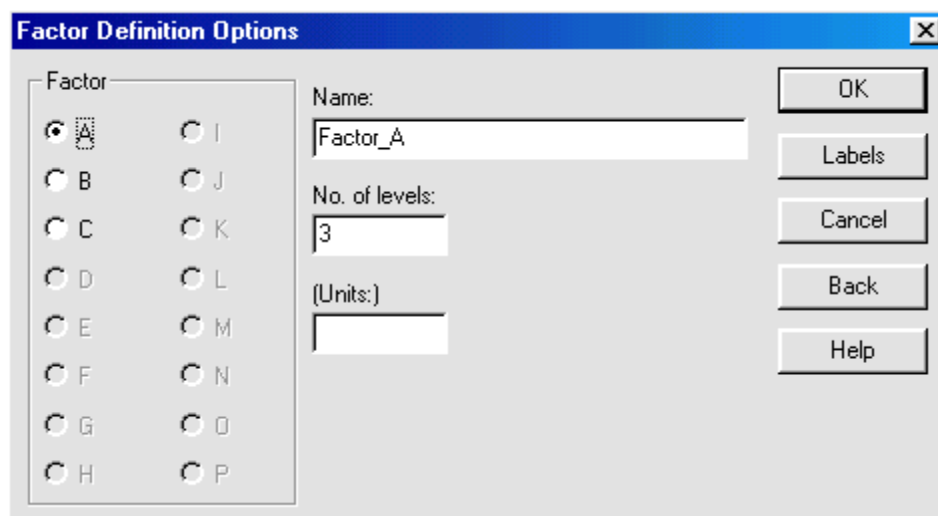

Figure 10-2. Factor Definition Options Dialog Box
3. Click OK to display the Factor Definition Options dialog box shown in Figure 10-2.